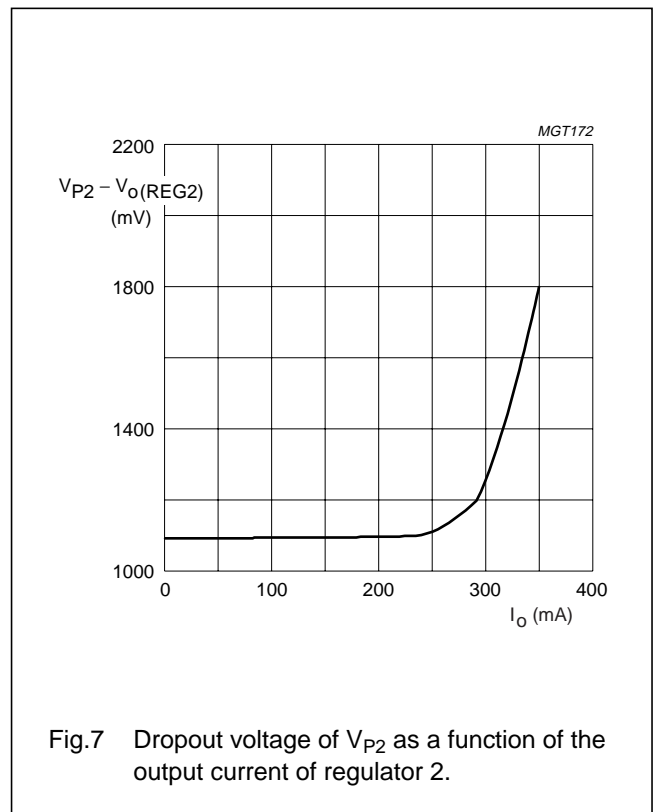

Fig.7 Dropout voltage of  $V_{P2}$  as a function of the output current of regulator 2.
5. The dropout voltage of regulator 2 is the voltage difference between  $V_{P2}$  and  $V_{o(REG2)}$  and depends on the load current (see Fig.7).